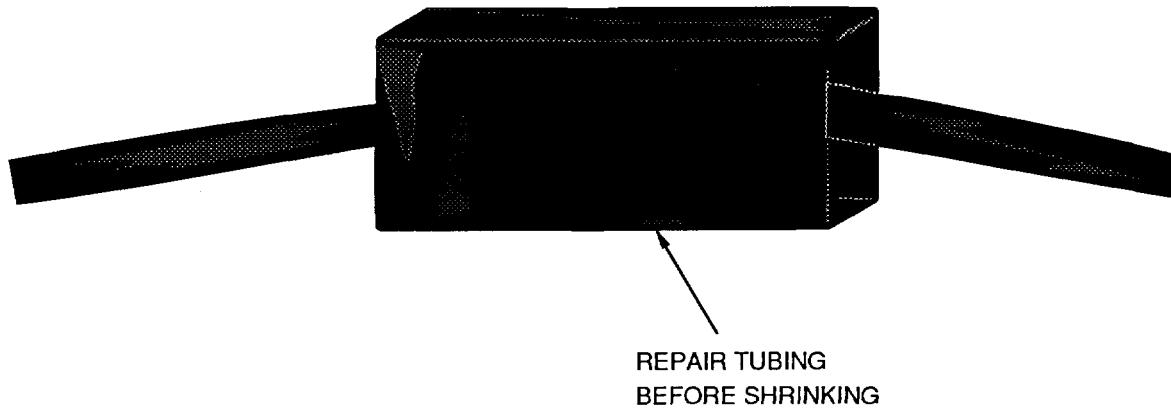

Figure 21. Repair Tubing Before Shrinking
- e. Place repair tubing over cable and center over repair area (Figure 21).